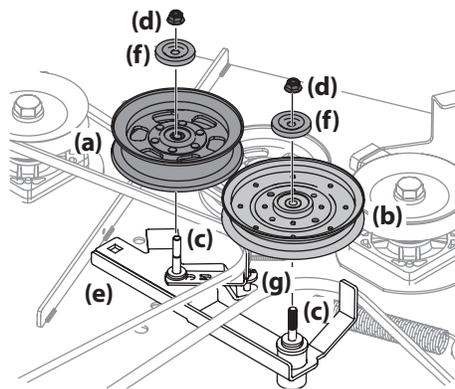

Figure 4-18
- Remove the two idler pulleys (a & b) by removing the hex screws (c) and flange lock nuts (d) that secure them to the deck and the idler arm (e). See Figure 4-18. Do not lose any of the hardware (pulley caps (f), washers, belt guards (g) (if equipped)) when removing the hex screw (c) and flange lock nut (d).